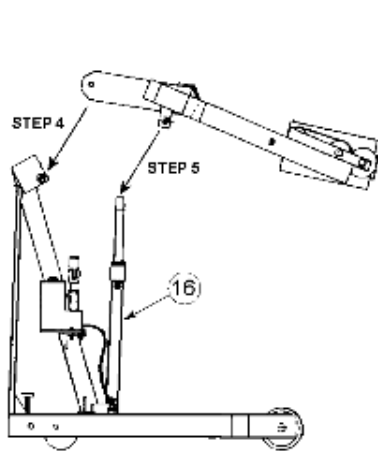

Figure 3
Step 4: Lift overhead assembly into position. A drift pin can help align the holes. Insert a greased clevis pin (item 12) through mast cap and boom. Tighten collar set screw onto pin. See figure 3.